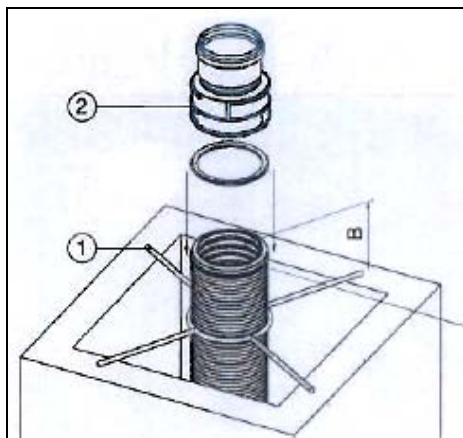

Figure 11 – Required Liner Length at Shaft Top
16. Fit the support cross (see Fig. 11, 1) over the liner and let it rest on the wall of the shaft. Mount the seal in the last whole groove of the liner. Push the flex-rigid adaptor on the liner and close the latching tabs. Allow the assembly to rest on the support cross.